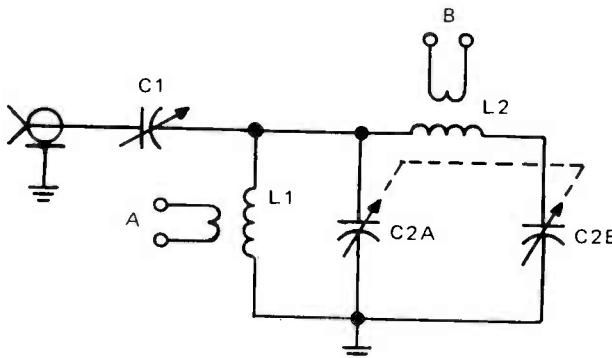
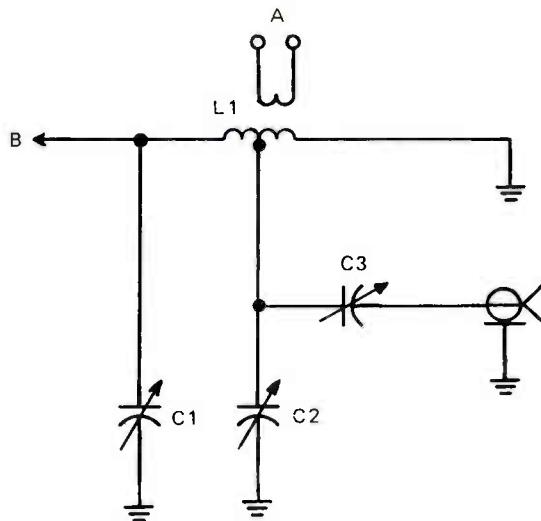
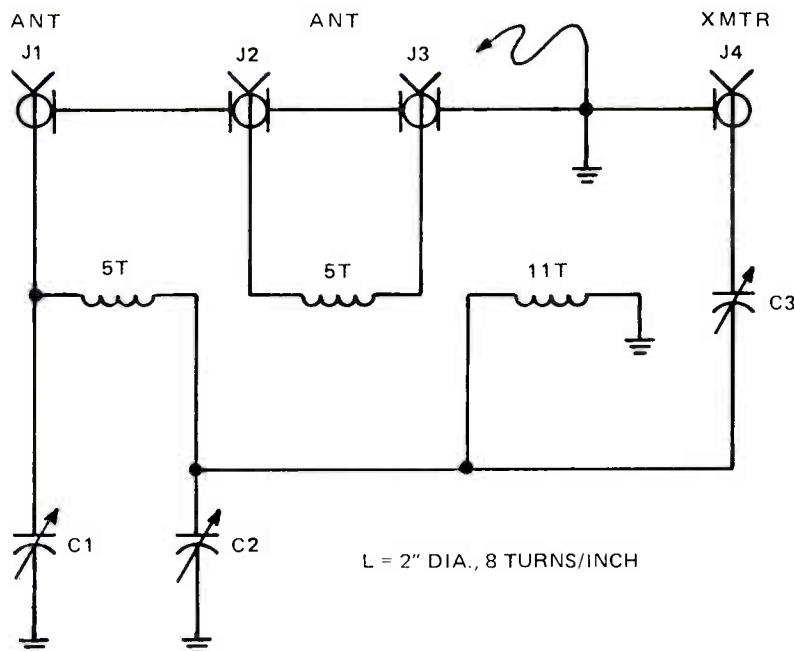
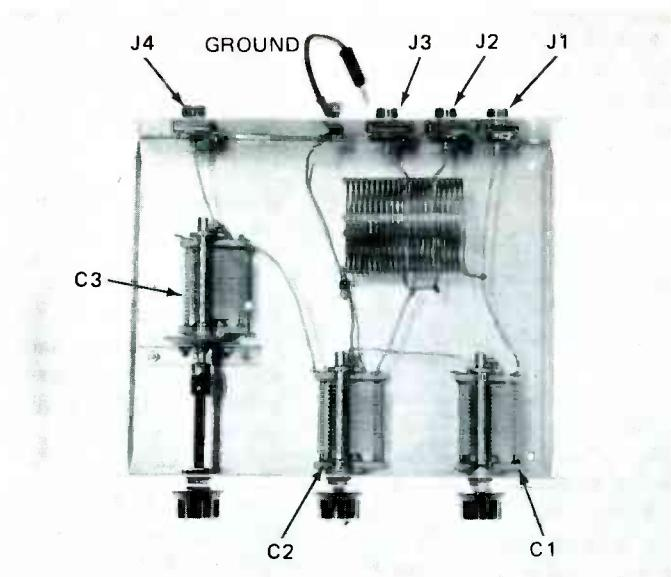

FIGURE 1. MULTIBAND COUPLER.
FIGURE 2. REVISED MULTIBAND COUPLER.
FIGURE 3. FINAL VERSION OF THE MULTIBAND COUPLER.
FIGURE 4. PROTOTYPE COUPLER.
Then I came upon a coupler in the 1957 ARRL Handbook which was just what I was looking for. This handbook was published in the days when the "multiband" tuners were popular, and someone had designed this coupler around such a tuner. After reading the article, I remembered that I had built a receiver some years ago and had used such a tuner in the front end and it had worked quite well. It had two ganged capacitors and two coils and covered the entire range from 3 MHz to 30 MHz. Figure 1 shows the arrangement as published in the 1957 Handbook.
I didn't use this arrangement. Instead, I used the configuration shown in Figure 2, originally as a receiver front end and more recently as a transmission line coupler (a more apt name than "antenna tuner"). In the receiver, the link (A) was near the ground end of L1 which is now a single, tapped coil and the B terminal went to the grid of the rf amplifier. C3 was not used. C1 and C2 were two sections of a broadcast variable (about 400 pf maximum capacity) and were ganged together. At any rate, having the two coils of Figure 1 tightly coupled as in Figure 2 did not seem to alter the operation of the tuner in the least, and the mechanical construction was simplified greatly by having only a single coil.
Anyway, I thought I would try the configuration of Figure 2 as a transmission line coupler and the results can be seen in Figure 3 and Figure 4. I used three separate capacitors for C1,
C2, and C3 and a single length of coil stock for L1 and the link. Figure 4 shows the physical layout of the prototype as installed in a salvaged Conar Model 682 enclosure (which had been retooled by the U.S. Postal Service). All three capacitors are 235-pf variables with 0.032" spacing. This spacing should prove adequate for rigs running 200 watts or less. L1 is a length of B&W 4032 air inductor constructed as shown in Figure 3.
for in Figure 4. Do not use the ground plug for balanced lines—just connect the line to the two coax connectors with two banana plugs. On the higher bands, you can try the coax output from J1 for a match to the line if you want.